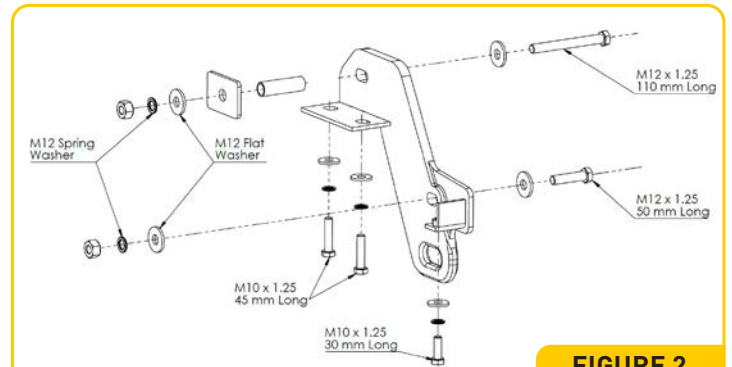

FIGURE 2
2. Fit hardware as shown in figure 2